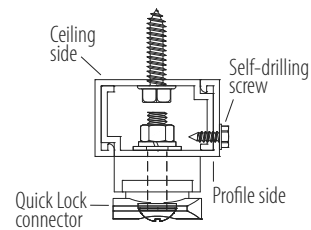

Figure 3b
- b. Secure installation rail assembly together with provided self-tapping screws. (Figure 3b)